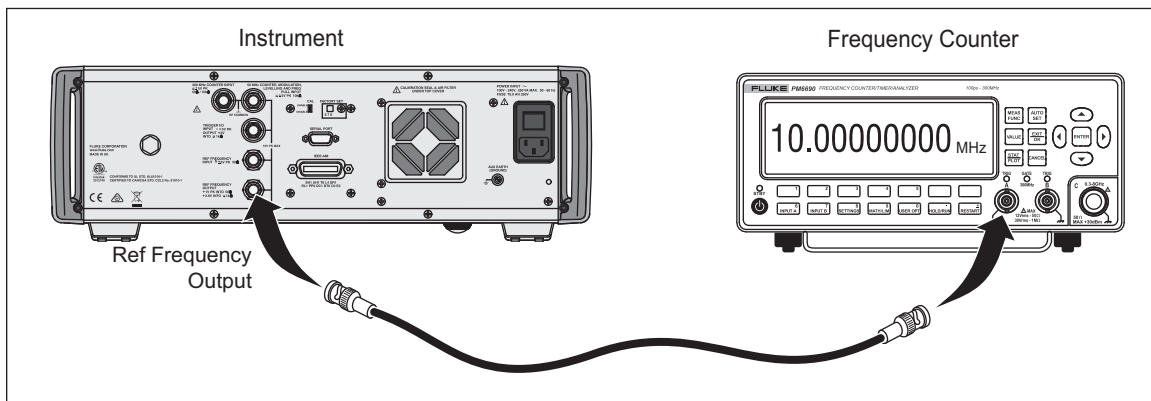

Figure 3-1. Equipment Connections - Reference Frequency Accuracy Test
3. Connect the REF FREQUENCY OUTPUT (on rear) from the UUT to the Channel A input on the Frequency Counter using a BNC male – male cable. Set the Frequency Counter input impedance to 50 Ω . See Figure 3-1 for equipment connections.